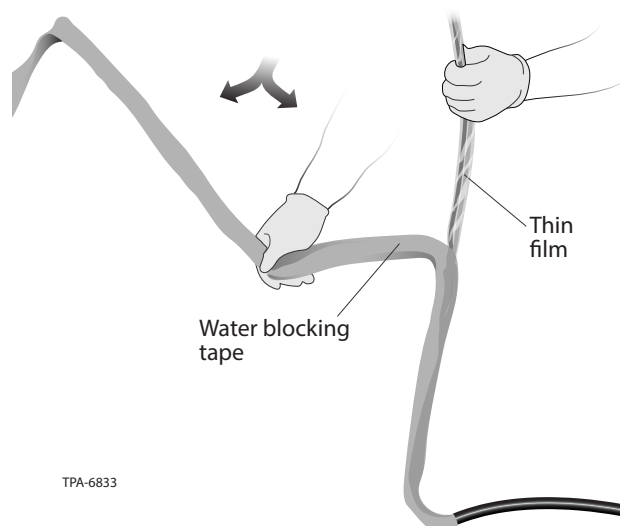

Figure 8
**Step 5:** Remove water blocking tape (Figure 8).